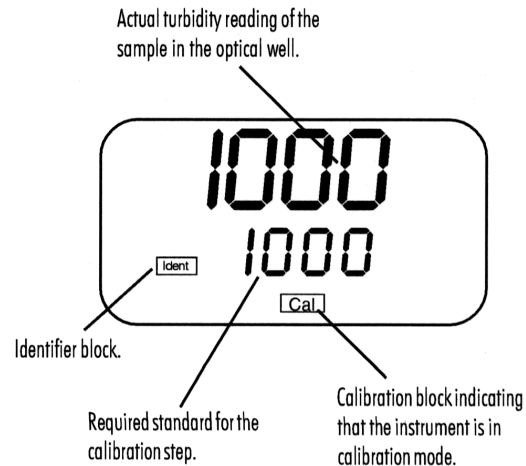

Figure 3
2. The turbidity value displayed in the lower row of the display should read 1000 NTU. This is the first standard that must be used in calibration. Insert the 1000 NTU calibration standard into the sample well (see figure 3) by aligning the notch and the indexing pin (see section 5.1 if you have not already indexed the standard) and wait for the reading to stabilize.